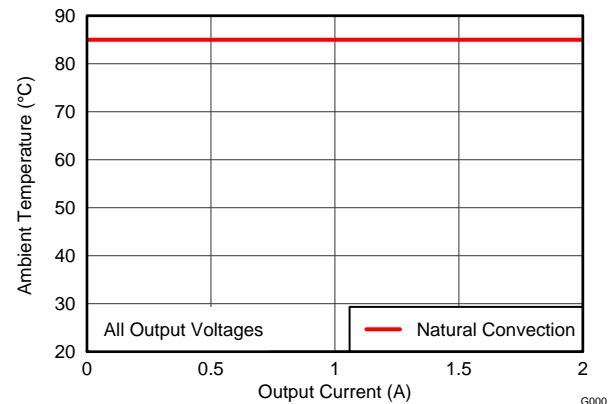

Figure 9. Safe Operating Area
- (2) The temperature derating curves represent the conditions at which internal components are at or below the manufacturer's maximum operating temperatures. Derating limits apply to devices soldered directly to a 100 mm x 100 mm double-sided PCB with 1 oz. copper. Applies to Figure 9.